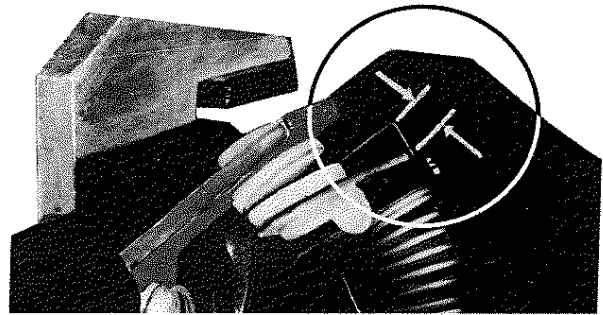

Figure 3
1. With all power removed, check that the electrical interlock (52) has the proper follow-up. With new electrical interlock contacts, the moving contacts (55) should provide at least 1/16" follow-up on each stationary contact when the contact arm reaches its limit of travel; either completely closed or completely opened (Fig. 3).